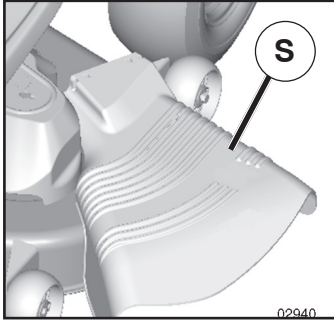

Fig. 10
CAUTION: Do not operate the mower without either the entire grass catcher, on mowers so equipped, or the deflector chute (S) in place (See Fig. 10).